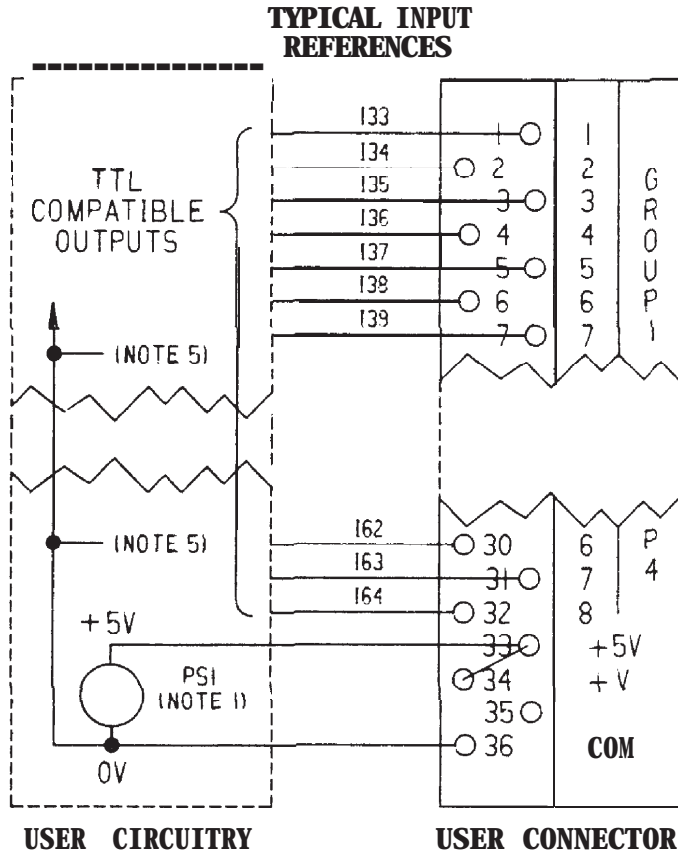

FIGURE 5. RECOMMENDED USER INPUT CONNECTIONS FOR TTL MODE OPERATION
The circuit-board jumpers must also be set to configure the module to operate in the desired system configuration. For example: sink or source, invert or non-invert, TTL or lo-50 volt inputs. Refer to figure 2, User Items and appropriate figure 5, 6 or 7.
**Jumper JP3 must be set correctly for the voltage in use. See figures 5, 6, and 7. Failure to set JP3 to the correct position may prevent module from operating.**
Refer to figures 5, 6 and 7 for Typical User Input connections to this module. In the TTL mode of operation, the low (negative) side of each of the TTL inputs must be returned to the Module Common (COM) terminal Pin 34.